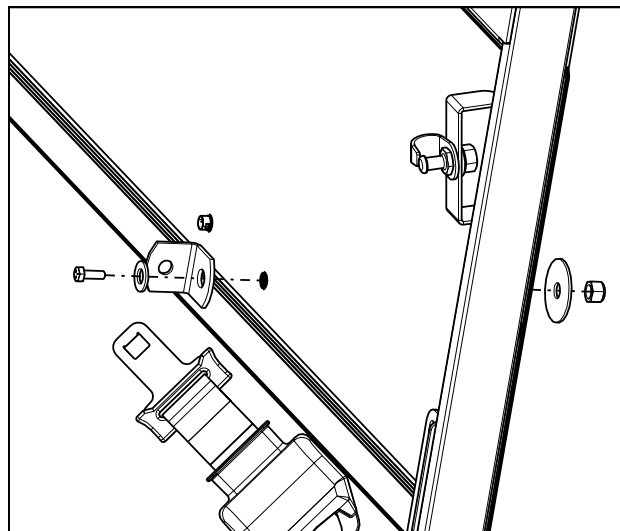

Fig. 13.5: Mounting bracket
13.5 Attach mounting bracket through large hole in lower rear panel on driver's side using (1) 7/16-14 x 1", (2) 7/16" flat washer, (1) 9SB3 fender washer, and (1) 7/16-14 lock nut. Tighten mounting hardware to 50 ft-lb (67.8 N-m). (**Figure 13.5**)